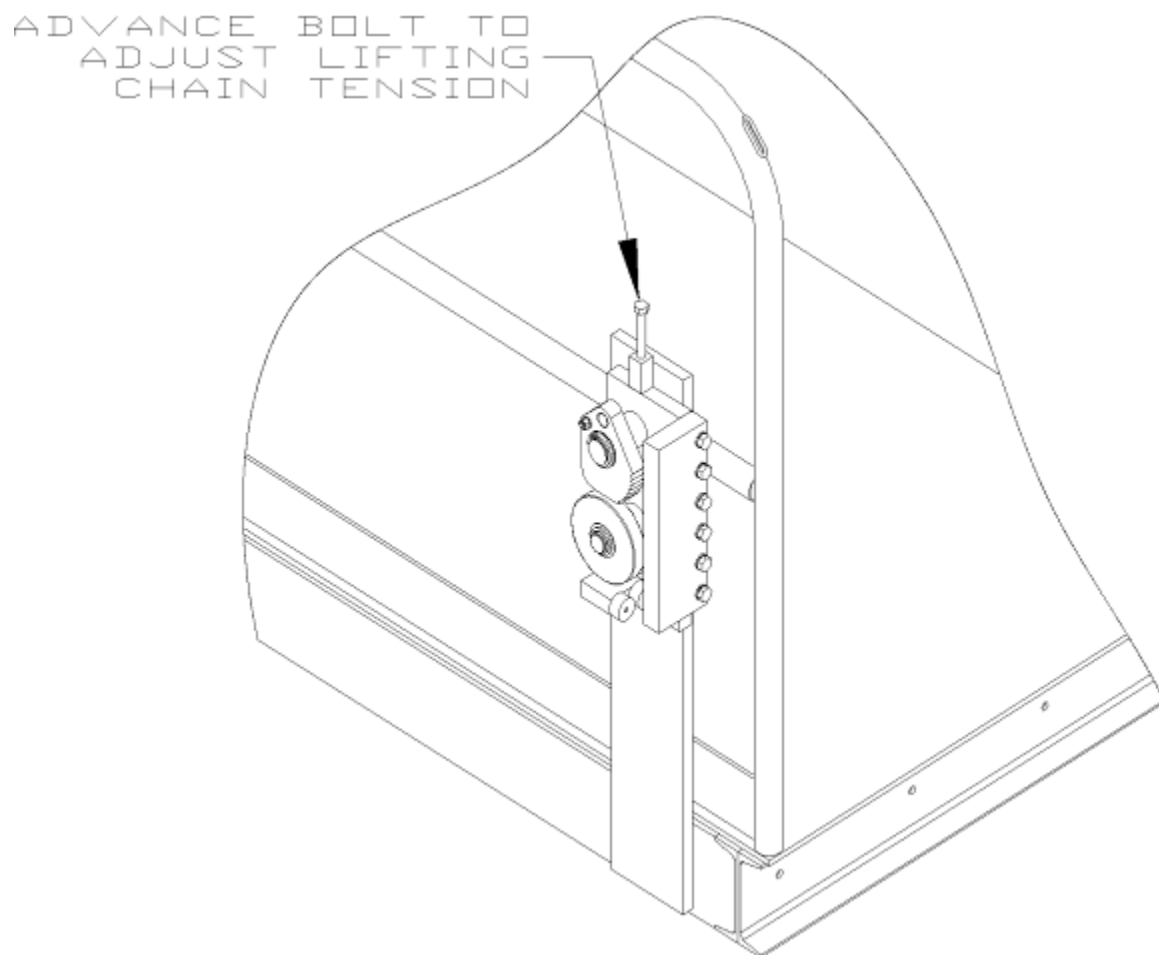

Figure 34 Lifting Chain Tension Adjustment
J. LEVELING THE CARRIAGE (Reference Figure 34)
1. Make sure the carriage is free to rise about six (6) inches. Check to be sure carriage is level and chains are equally tight.
2. Continue to raise carriage in small six (6) inch increments, checking for binding or interference. Make any changes necessary to align beams to allow smooth travel.
4. Adjustments to lifting chain tension can be made by loosening the four (4) 1/2" x 2" bolts attaching the carriage uprights to the wheel guide, then tightening or loosening chain tension with the 1/2" x 5" bolt on top of each carriage upright (refer to **Figure 34**). Once the chain is tightened/adjusted as needed, re-tighten the four (4) attaching bolts to 99 ft-lbs.